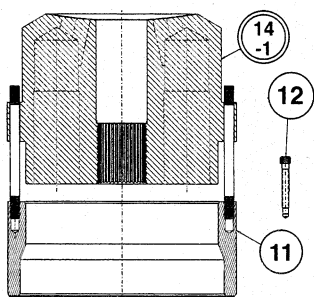

FIGURE 8
See figure 8. Thread seven M8 studs in inner race of barrel bearing (11) as shown.